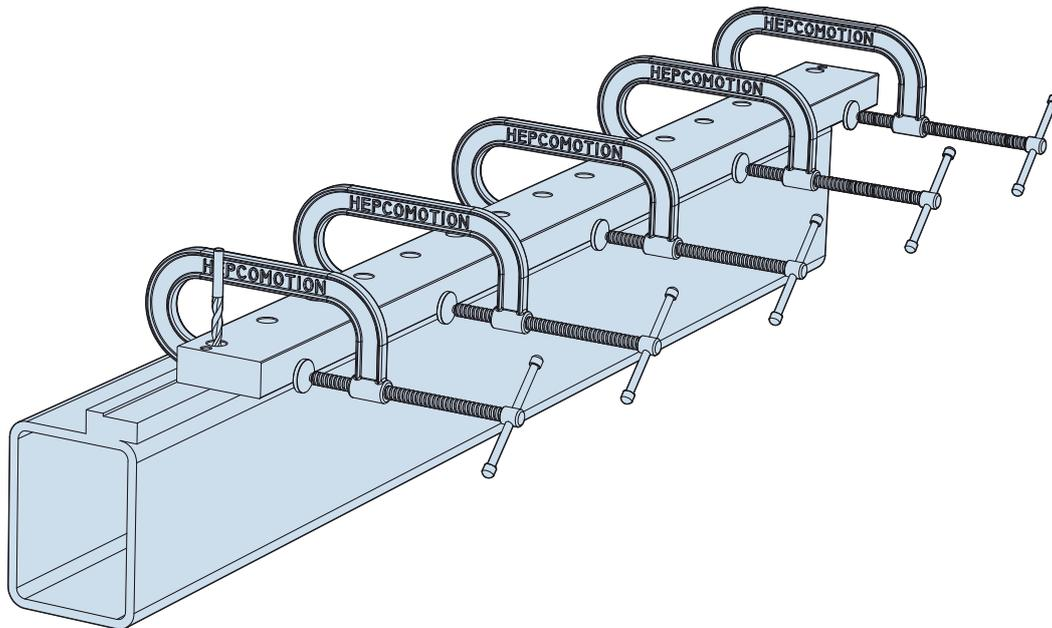

Figure 2
4. Pull the track tight against the register along its entire length. Screw clamps offer a suitable method for doing this, as is shown in Figure 2.